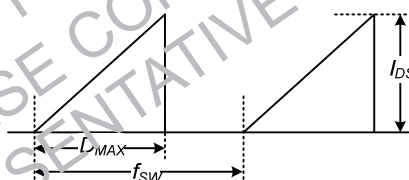

Figure 4. Repetitive Peak Switching Current
- Repetitive peak switching current when the inductive load is assumed, limited by maximum duty ($D_{MAX}=0.73$) and junction temperature (see Figure 4).